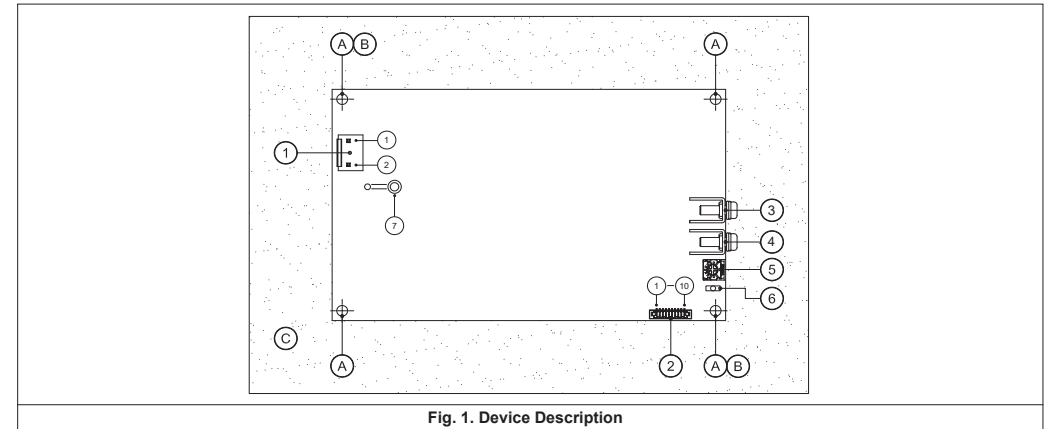

Fig. 1. Device Description
- For Protection against shock to Class I with PE (protection earth) and Class II with or without FG (functional ground) product, the two mounting holes (marked B in Fig. 1) need to be connected together to the system's protective earth or functional ground. Pollution degree and EMC performance with different connections please refer to product datasheet.
Refer to Fig. 1.:
- 为使设备在连接保护地线(PE)状态下达到防冲击 Class I 标半年准，或在配备与不配备FG（功能接地）产品状态下达到 Class II 标准，两个安装孔（图1 B 标记处）需一同连接至系统保护地线或功能接地。不同连接之防污染等级与EMC性能敬请参见产品技术参数表。
参见图1: